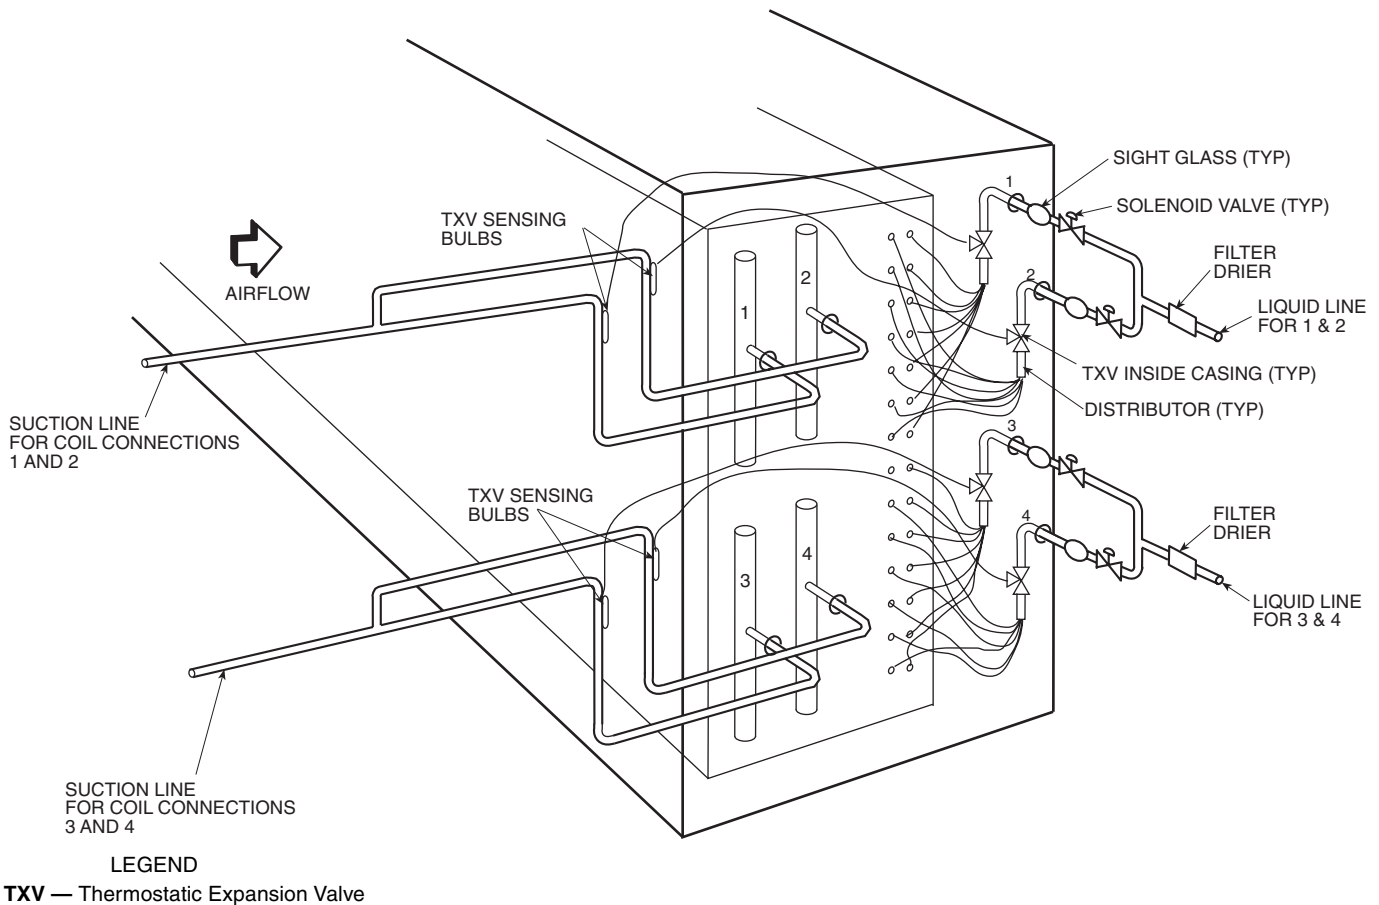

Fig. 61 — Face-Split Coil Manifolding (Typical)
Manifolding for 2-Face Splits — Refer to Fig. 61 and externally manifold as follows:
Manifolding for 2-Face Splits — Refer to Fig. 61 for coils with less than 34 tubes in face. Externally manifold as follows:
1. Coils with less than 34 tubes: Connect the 4 expansion valves to the 4 distributors on each coil and connect the 4 suction lines to the 15-diameter-long risers as outlined in previous piping instructions. Refer to Fig. 61.
Manifolding for 2-Row Splits — Refer to Fig. 61 for coils with less than 34 tubes in face. Externally manifold as outlined for the 2-face splits with the following exceptions: